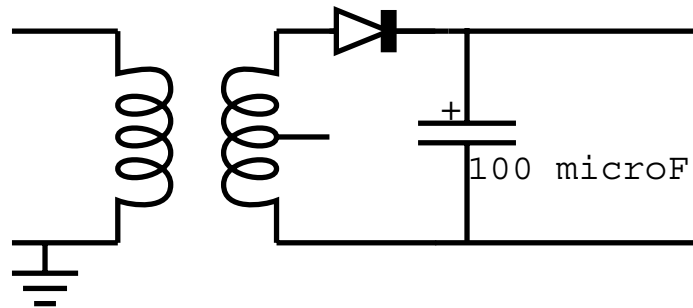

Figure 22: Half wave rectifier circuit
A basic use for the semiconductor diode is in a rectifier circuit for converting an alternating voltage to a steady one. The simplest rectifier circuit is the half-wave rectifier shown in Figure 22. When the transformer output voltage is positive, the diode conducts thereby charging the capacitor. The capacitor cannot discharge because the diode does not conduct in the reverse direction. Thus the capacitor charges up to the peak voltage at the transformer output then maintains a steady value.
- Q. Why will the voltage drop less for a given resistance if a greater capacitance is used in the rectifier circuit in Fig.22?
1. Set up the circuit shown in Fig.22 except use a $10\text{ k}\Omega$ resistor instead of the capacitor. Connect the oscilloscope to the output and draw the resulting voltage function in your notebook.